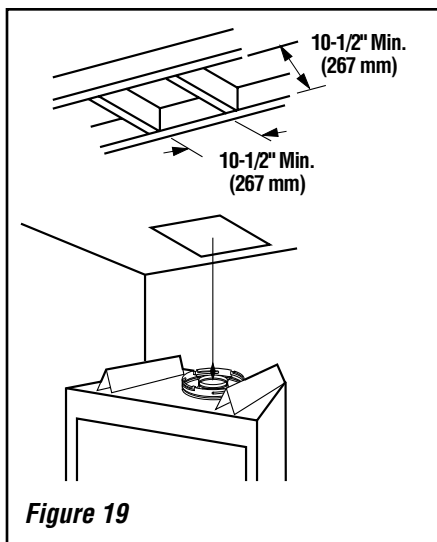

Figure 19
A. Frame ceiling opening - Use a plumb line from the ceiling above the appliance to locate center of the vertical run. Cut and/or frame an opening, 10-1/2" x 10-1/2" (267 mm x 267 mm) inside dimensions, about this center mark (**Figure 19**).
C. Frame ceiling opening - If the vertical route is to penetrate a ceiling, use plumb line to locate the center above the appliance. Cut and/or frame an opening, 10-1/2" x 10-1/2" (267 mm x 267 mm) inside dimensions, about this center (refer to **Figure 19 on Page 15**).